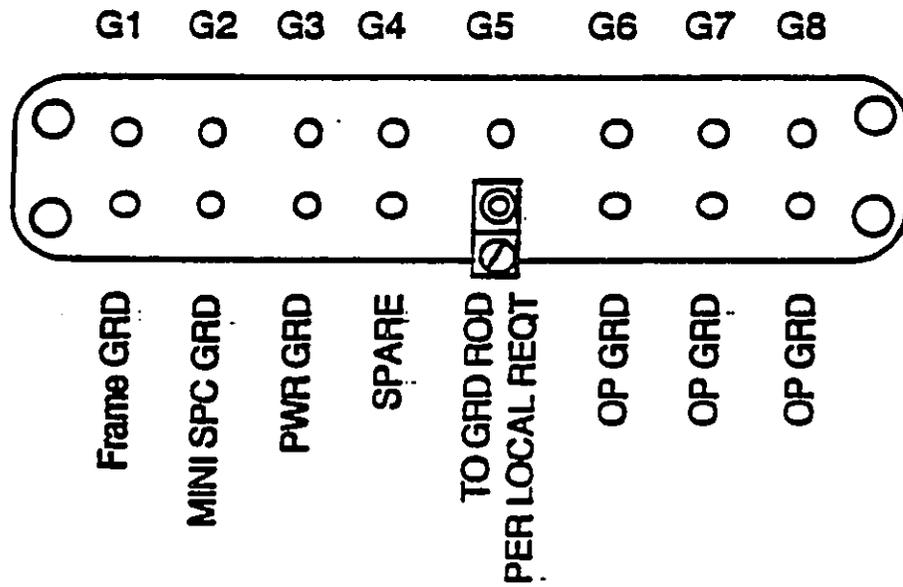

Fig. 2-12
- 6 Install QCM2A bond clamps on each outside cable, route the wires inside the rear cable trough, and connect the grounding wires from the clamps to positions G6 and G7 on the cabinet ground bar (see Fig. 2-12).
- 1 Run a # 6 tinned copper wire from position G5 on the ground bar (Fig. 2-12) to the ground rod (in accordance with local codes).